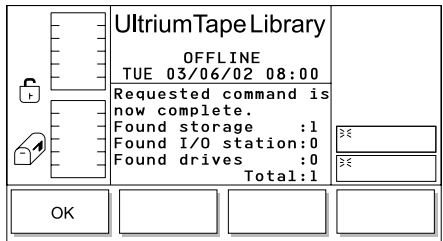

Figure 157. Completion Dialog
- If you chose to display the results, the Completion Dialog displays (see Figure 157). The screen shows the quantity of cartridges that were found in the storage slots, I/O station, and drives.